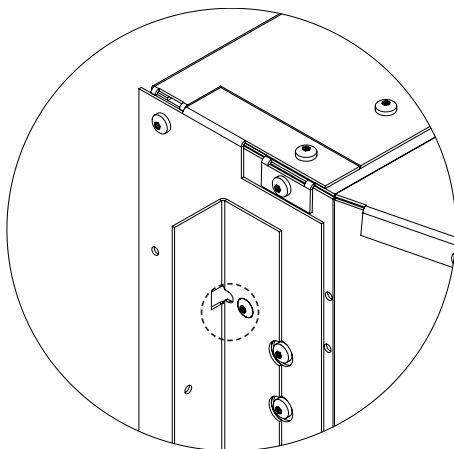

Figure 45: Installation for Contemporary and Extruded Surround.
1. Install the two Trimmable Panel brackets onto the unit using a T-20 Torx screwdriver. See Figures 43-46. for the screw installation locations. There are three sets of hole patterns on cabinet side depending on which Surround Panel is being installed. See Figures 45 and 46.